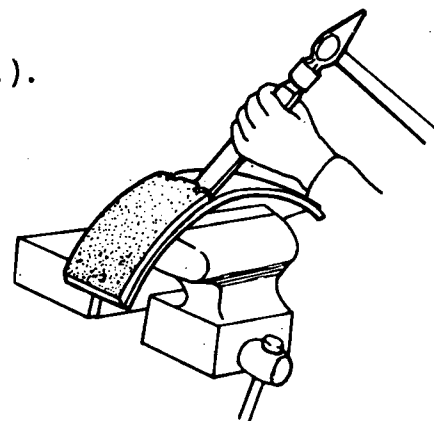

Fig.1
- b) Remove the brake lining (fig. 1).